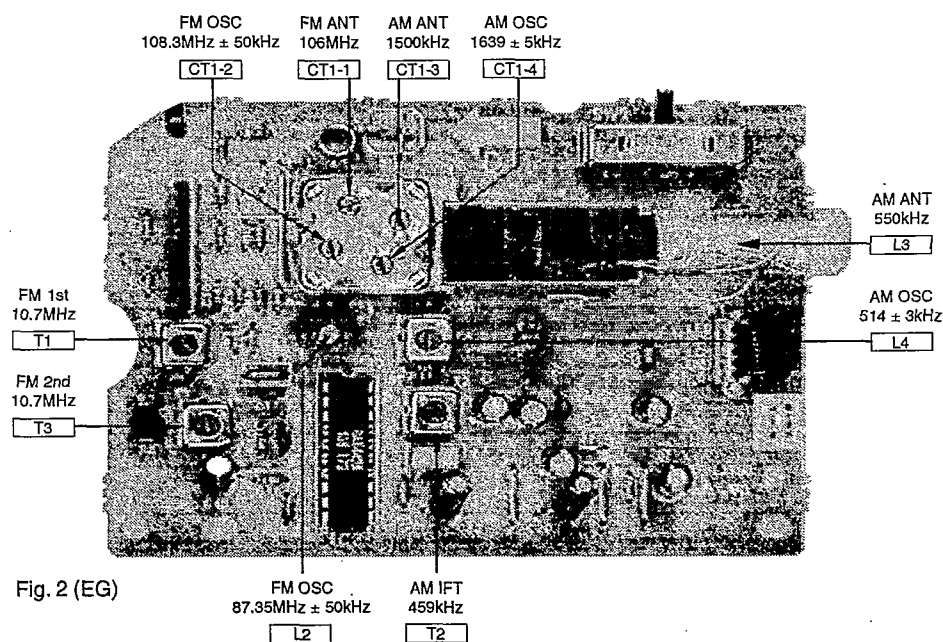

Fig. 2 (EG)
4. Alternately adjust the HEX screws with the 2.0mm allen wrench (SZZP1101C) until the vertical fluctuation of RF signal is minimized and the eye pattern is most stretched. (Refer to Fig. 2 on page 33)